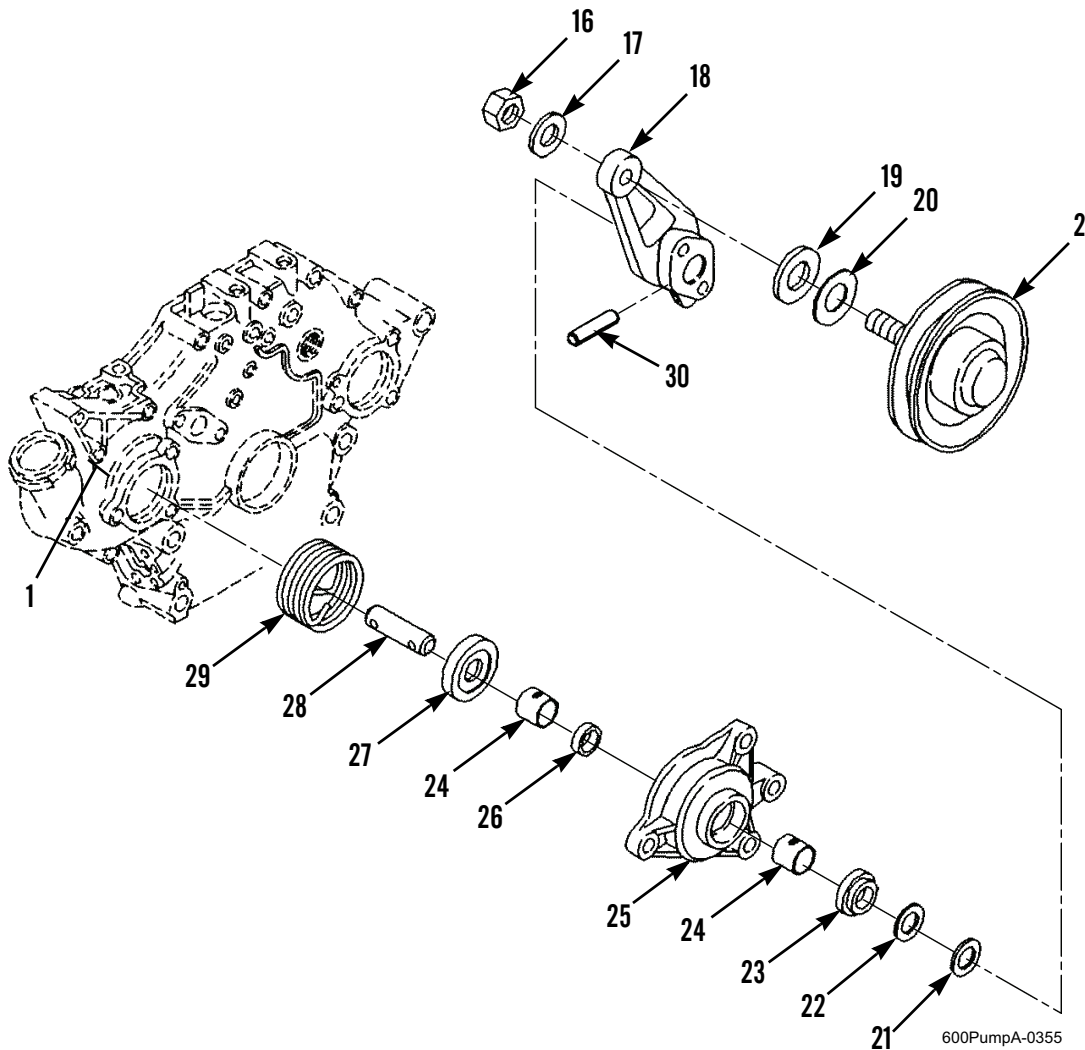

Figure 3. Tensioner Pulley Assembly - Exploded View.
1. Remove nut (Figure 3, Item 16), washer (Figure 3, Item 17), washers (Figure 3, Items 19 and 20), and pulley (Figure 3, Item 2) from pulley bracket (Figure 3, Item 18).
2. Remove pin (Figure 3, Item 30), pulley bracket (Figure 3, Item 18), and washers (Figure 3, Items 21 and 22) from shaft (Figure 3, Item 28). Discard pin.
3. Remove shaft (Figure 3, Item 28), spring (Figure 3, Item 29), and washer (Figure 3, Item 27) from tensioner housing (Figure 3, Item 25).
4. Remove spring (Figure 3, Item 29) and washer (Figure 3, Item 27) from shaft (Figure 3, Item 28). Discard spring.
5. Remove two bearing bushings (Figure 3, Item 24), bushing (Figure 3, Item 26), and seal (Figure 3, Item 23) from tensioner housing (Figure 3, Item 25). Discard seal, bearing bushings, and bushing.
1. Align bushing holes and install two new bearing bushings (Figure 3, Item 24), new bushing (Figure 3, Item 26), and new seal (Figure 3, Item 23) on tensioner housing (Figure 3, Item 25).
2. Install washer (Figure 3, Item 27) and new spring (Figure 3, Item 29) on shaft (Figure 3, Item 28).
3. Install shaft (Figure 3, Item 28), spring (Figure 3, Item 29), and washer (Figure 3, Item 27) on tensioner housing (Figure 3, Item 25).
Coated side of washer (Figure 3, Item 22) must point towards steel washer (Figure 3, Item 21).
4. Install washers (Figure 3, Items 21 and 22), pulley bracket (Figure 3, Item 18), and new pin (Figure 3, Item 30) on shaft (Figure 3, Item 28).
5. Install washers (Figure 3, Items 19 and 20), pulley (Figure 3, Item 2), washer (Figure 3, Item 17), and nut (Figure 3, Item 16) on pulley bracket (Figure 3, Item 18).